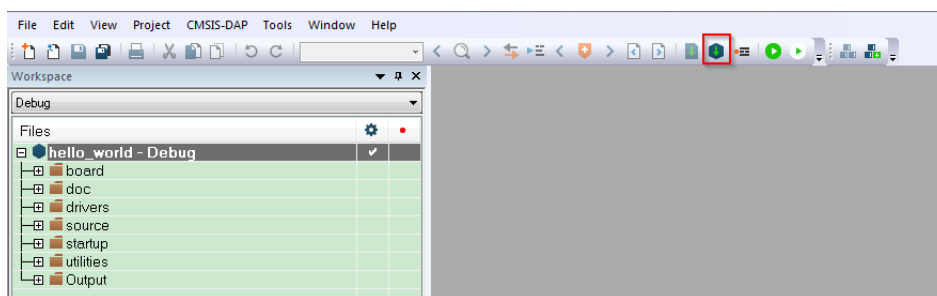

Figure 4. Build the demo application
3. To build the demo application, click **Make**, highlighted in red, as shown in Figure 4.